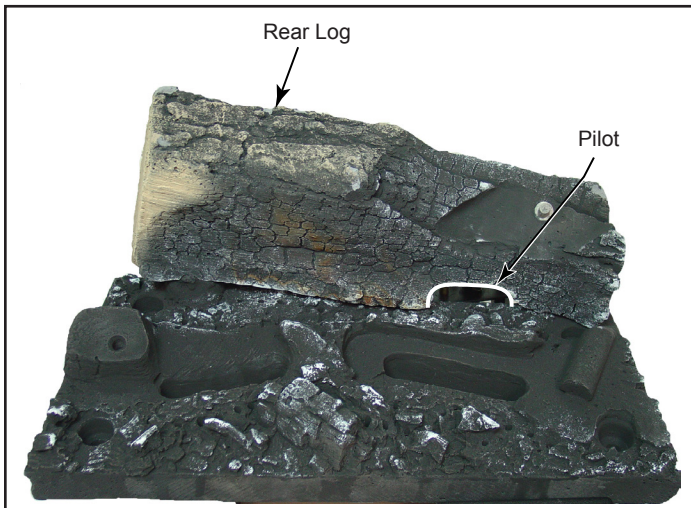

Figure 56
1. Install the rear log by matching the notch on the bottom left of the log on the raised notch on back left side of the ember bed. Cutout on bottom right side is clearance for pilot assembly, Figure 56. Gently push right side of log back until it contacts thermopile on pilot assembly.